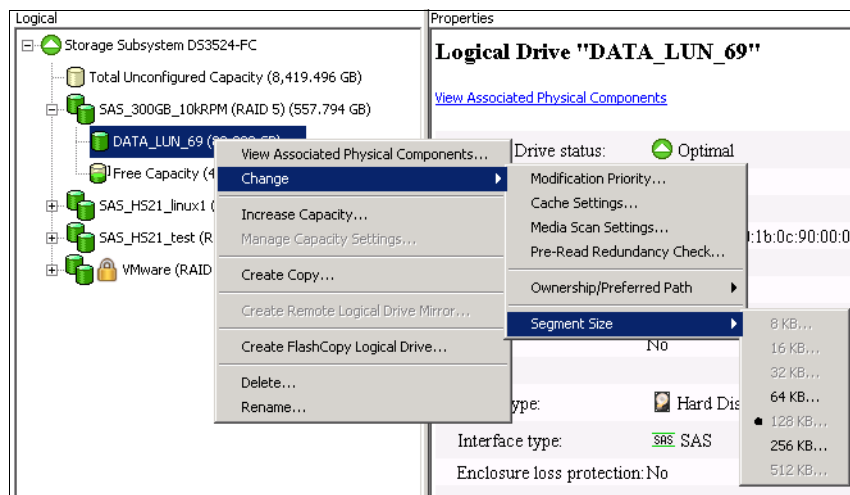

Figure 9-32 Change Segment Size menu
1. Highlight the logical drive in the Logical pane, right-click it, and select **Change** → **Segment Size** → **value**. The *value* highlighted in menu is either twice or half of the current value. See example in Figure 9-32.